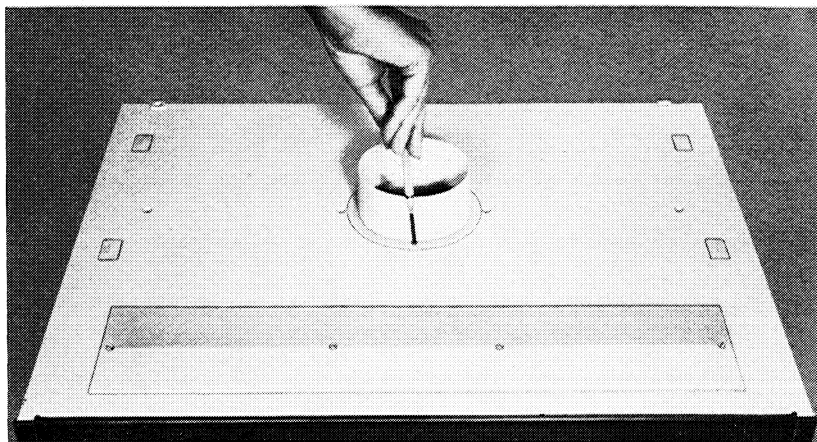

Abb. 3
1. Take out the connecting piece which is loosely inserted in the exhaust air outlet and fasten it with the 3 small metal screws above the exhaust air outlet (fig. 3).
4. Connect appliance to mains supply. (For details concerning items 2–4 see page 10)